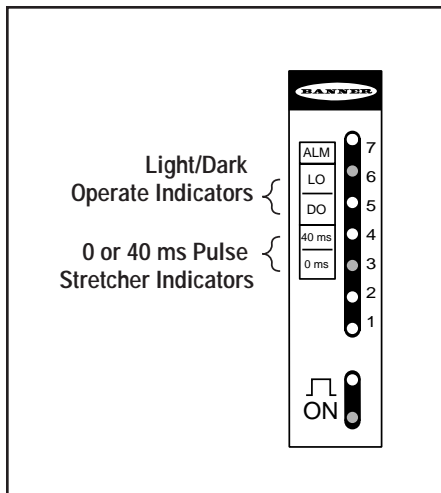

Figure 3. D12 Expert setting indicators, shown set to factory defaults
The output configuration can be checked at any time by simply holding down the push button for 2 seconds. The sensor's 7-segment LED display will indicate the current setting for 10 seconds (see Figure 3), while the sensor continues normal operation. Factory settings for the output configuration are no delay (0 ms) and light operate (LO).